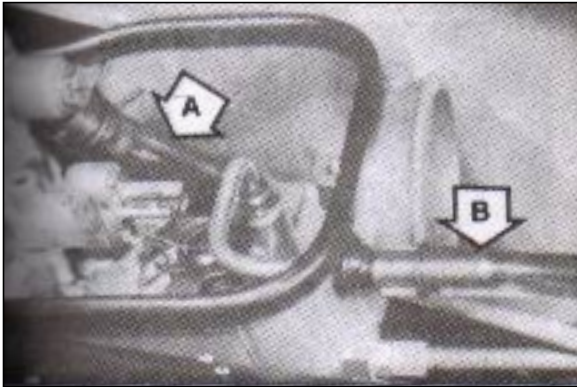

Fig. 71
- (b) Close the fuel cock and burn out fuel (by running engine) in pipeline 'A' and of carburettor. Disconnect oil inlet pipe 'B' from carburettor side.(fig.71)